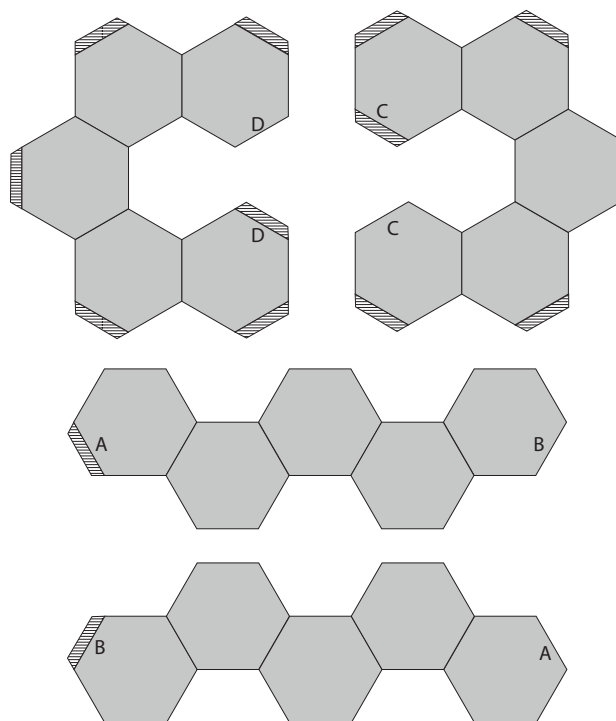

Figure 16.18
- Take a photocopy of the picture in figure 16.18. Paste it on a bristol board and cut the block.